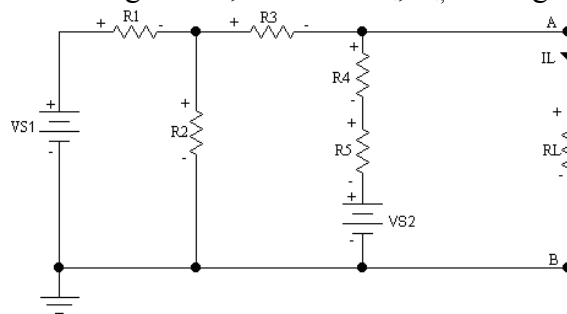

Figure 3.3
3. Using Norton's equivalent of the circuit of Figure 3.3, calculate  $R_N$ ,  $I_N$ , and  $I_L$ , with  $V_{S1} = 12$  V,  $V_{S2} = 10$  V,  $R_1 = 2.2$  k $\Omega$ ,  $R_2 = 3.3$  k $\Omega$ ,  $R_3 = 4.7$  k $\Omega$ ,  $R_4 = 6.8$  k $\Omega$ ,  $R_5 = 10$  k $\Omega$ , and  $R_L = 15$  k $\Omega$ . Show all computer simulation.
3. Construct the circuit of Figure 3.3, measure  $R_N$ ,  $I_N$ ,  $I_L$  using the DMM.